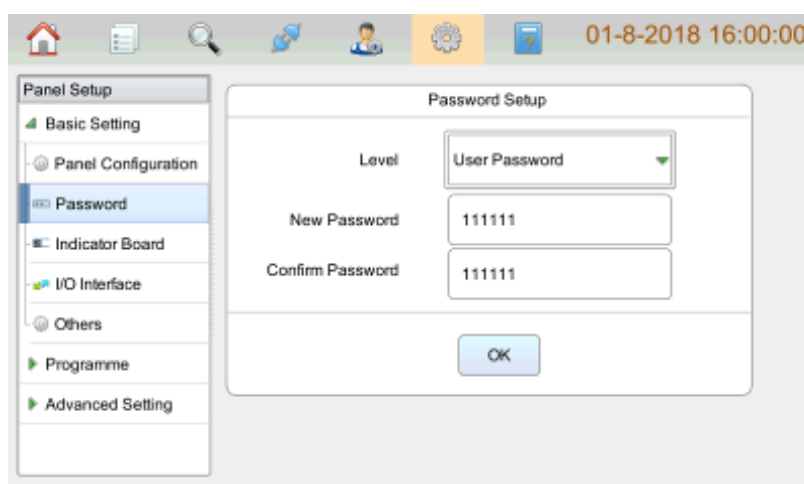

Fig 4.3
- Password: clicking **Password** in **Basic Setting** menu enters the screen for setting passwords as shown in the figure below Fig 4.3. There are two types of passwords including **User Password** and **Engineering Password**. After setting, pressing **OK** can save the settings.